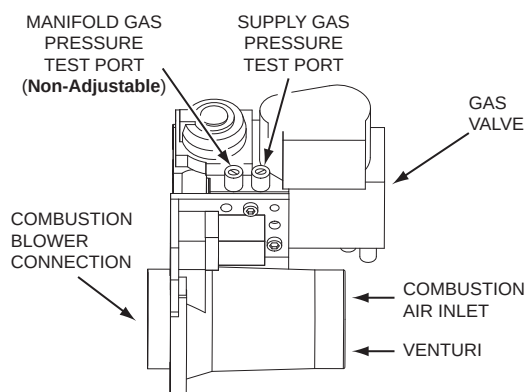
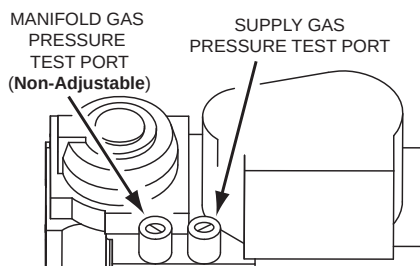

Figure 60. Gas Valve/Venturi Assembly Top View
Figure 61. Gas Valve Top Detail View
4. Wait five (5) minutes for any residual gas to clear.
5. Connect the manometer to the supply gas pressure port on the gas valve. See *Figure 60* (page 54) and *Figure 61* (page 54).
Water heaters covered by this manual have test ports for supply and manifold gas pressure readings on the gas valve. Using a small flat tip pocket screw driver - open the needle valve inside the supply gas pressure test port one full turn only; turn the needle valve screw counter-clockwise to open the valve. Slide the manometer sensing tube over the top of the test port. See *Figure 60* (page 54) and *Figure 61* (page 54).